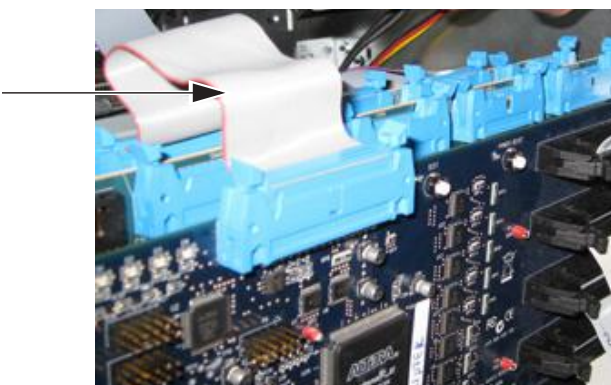

Figure 13. Mix Rack with a dual-connector ribbon cable
- If your Mix Rack has a standard dual-connector ribbon cable connecting the port labeled “Snake” on the first (innermost) Mix Engine card to the port labeled “P1 Mix Engine” on the Hub 48 card (see Figure 13), disconnect this cable from the Mix Engine card. Do *not* disconnect the cable from the Hub 48 card.
- For a Mix Rack with a dual-connector cable (see Figure 13 on page 6), connect this cable to the port labelled “Snake” on the first (innermost) Mix Engine card. If you installed the new Mix Engine card *behind* what was originally the first (innermost) Mix Engine card, connect the cable to the newly installed card. If you installed the new Mix Engine card *between* the second Mix Engine card and the Hub 48 card, reconnect this cable to the original card.